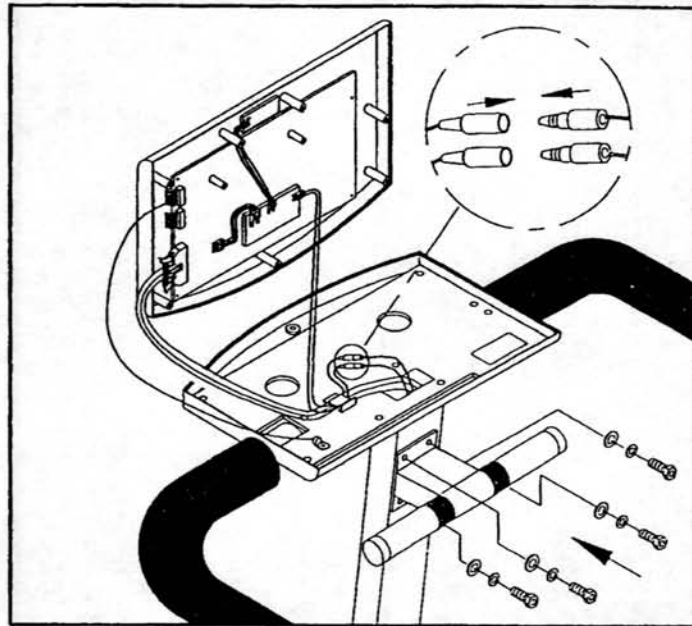

Fig.17-3
1. Replace a new HRT HANDLEBAR and fix in the UPRIGHT COLUMN by screwing all the screws and washers (see fig.17-3). Take the cable of HRT HANDLEBAR through the COLUMN into the PANEL and connect to the harnesses of the ELECTRONICS PACKAGE (see fig.17-3 & its enlarged figure).